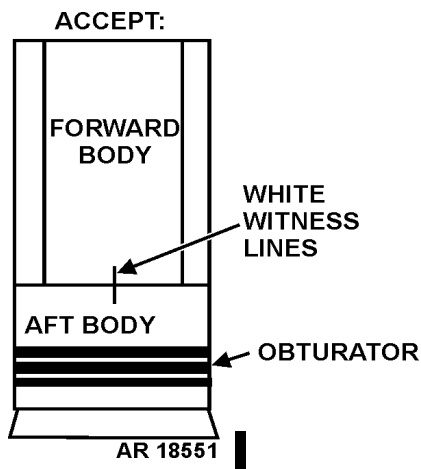

Figure 4-15. Acceptable Cartridge for M1028.
- a. The white witness lines (if present) on the forward body and the aft body interface are as shown in figure 4-15. The cartridge is acceptable if the marks on the forward body and the aft body are perfectly aligned (see accept criteria).